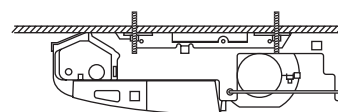

Fig. 3-49
- (c) Tighten the two hexagonal nuts on each suspension bolt to suspend the indoor unit as shown in Fig. 3-49.